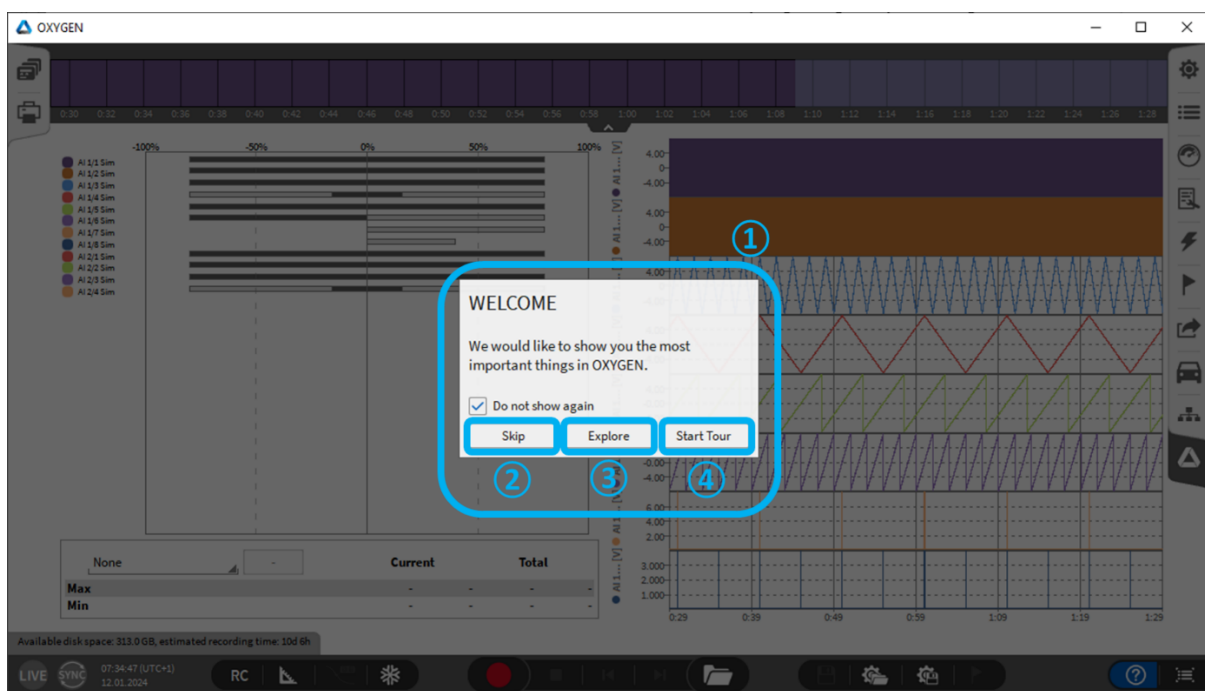
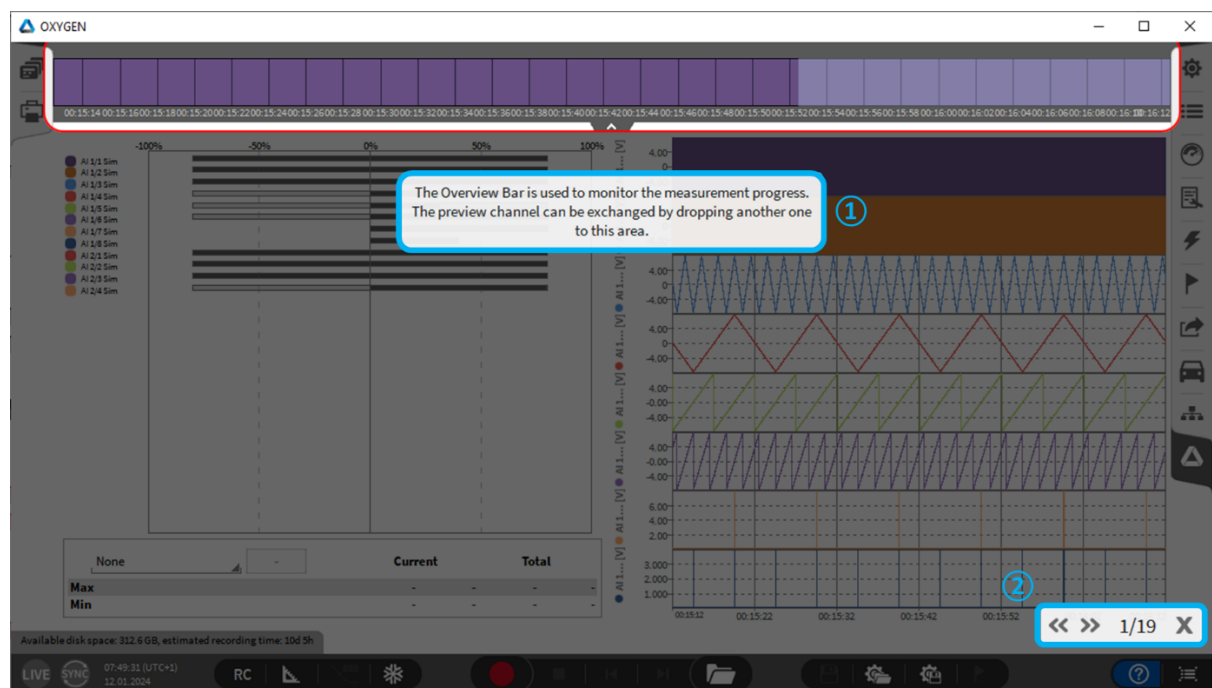

Fig. 3.1: Welcome
Fig. 3.2: Welcome tour description
After the software has been started, a “Welcome Tour” will automatically begin to guide you through the basic functionalities of OXYGEN. For this purpose, a window appears at the beginning (see ① in Fig. 3.1).
- “Skip” (see ② in Fig. 3.1): Skip the introduction to OXYGEN.
- “Explore” (see ③ in Fig. 3.1): The introduction is started. Now all available icons and buttons on the measurement screen are outlined in red. If you navigate with the mouse cursor over a bordered area, a short descriptive text about the function is displayed. Click on “x” (see ② in Fig. 3.2) to quit the introduction.
“Start tour” (see ④ in Fig. 3.1): Let yourself be guided through the various basic functions of OXYGEN. By clicking on “<<” or “>>” (see ① in Fig. 3.3) it is possible to jump through the individual icons, buttons and displays, the descriptions are automatically displayed for the respective area. By clicking on “x” (see ① in Fig. 3.3) you can quit the introduction.